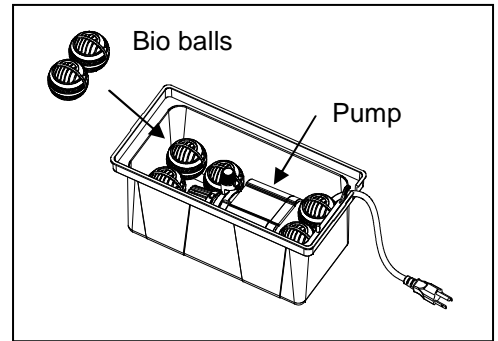

Fig. 2
2. Place the bio-balls around the pump. Fig. 2